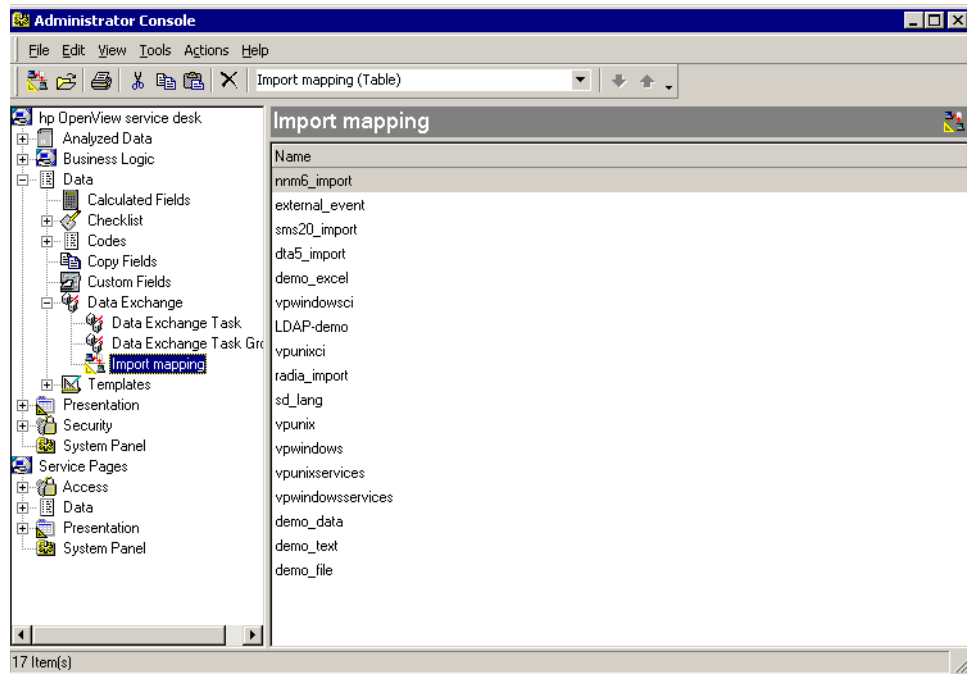

Figure 11: Import Mapping Window
11. Click **OK** on the New Template dialog box shown in Figure 11 to store the newly created template for import mapping.
1. From the **Tools** menu of Service Desk client, click **System --> Data Exchange --> Import Mapping**. The Import Mapping window opens as shown in Figure 11.